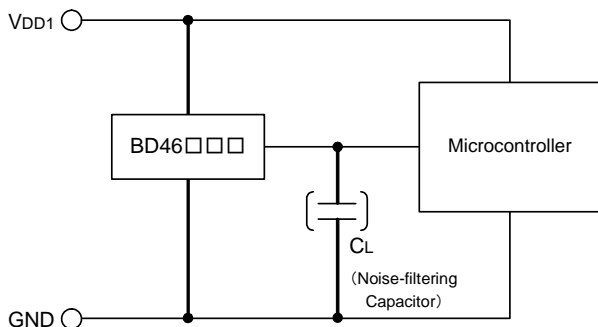

Fig.12 CMOS Output Type
The power supply of the microcontroller (VDD1) is same as the power supply of the reset detection (VDD1). Use CMOS output type (BD46□□□G) or open drain output type (BD45□□□G) attached a load resistance (RL) between the output and VDD1. (As shown Fig.12)